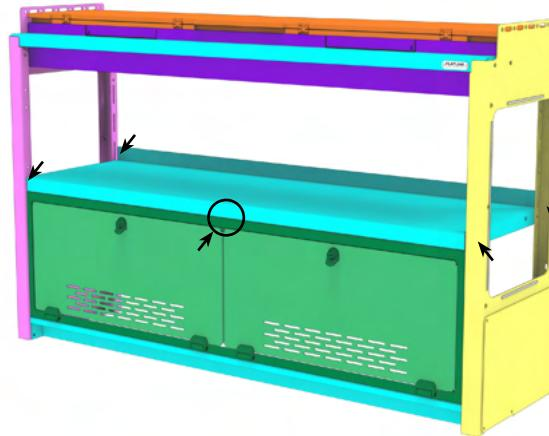
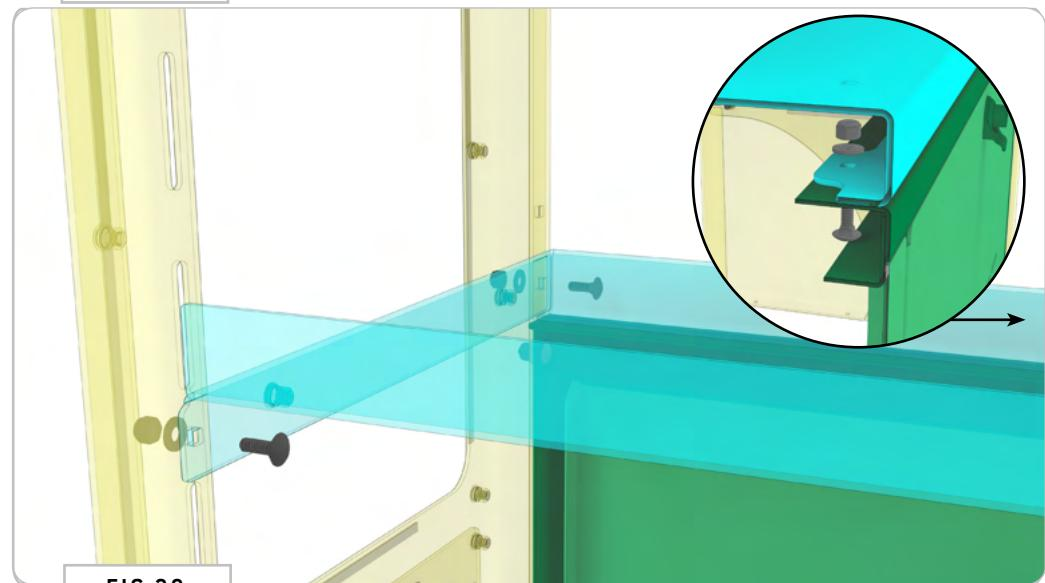

FIG 27
FIG 28
2.11 Install Cabinet Shelf Assembly: Attach the **Cabinet Shelf Assembly** to the **Left and Right Cabinet Ends** using **(4) 1/4-20 x 0.75 Square Neck Carriage Bolts, Flat Washers and Nylon Locknuts** (FIG 27). There's a final mounting location in the middle of the unit that will take **(1) 1/4-20 x 0.75 Square Neck Carriage Bolt, Flat Washer and Nylon Locknut** to finish out this step (FIG 28).